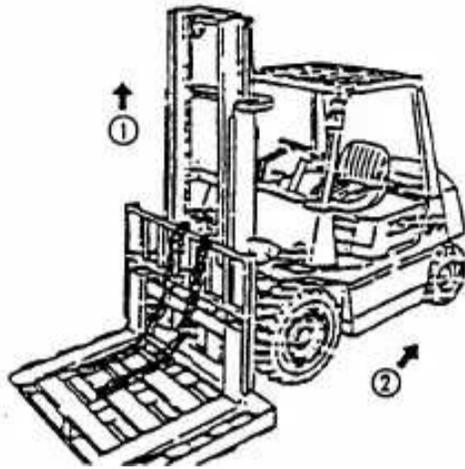

Fig 7.5
(1) Place a pallet on the forks and let the truck parking on the horizontal ground.
(2) Make the forks and the pallet down to the ground.
(3) Disassemble the end nipple of the upper chain and take the chain down from the sheave.
(4) Lift the inner mast (See Fig 7.5①).
(5) Make the truck back-up if the lift bracket is fully separated from the outer mast.
(See Fig. 7.5②)
(6) Replace the main rollers